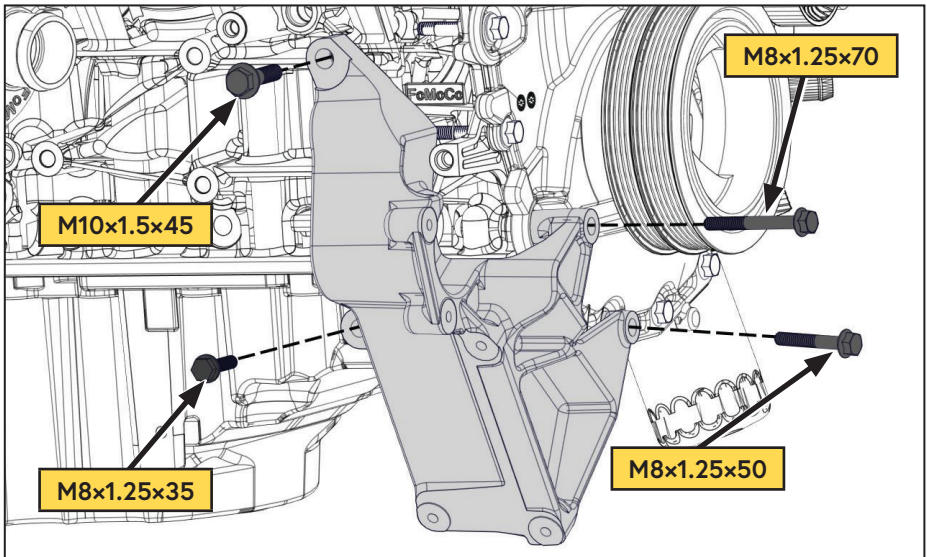

Figure 13 — Install main bracket
- Using the supplied fasteners, mount the main bracket onto the engine (Figure 13).